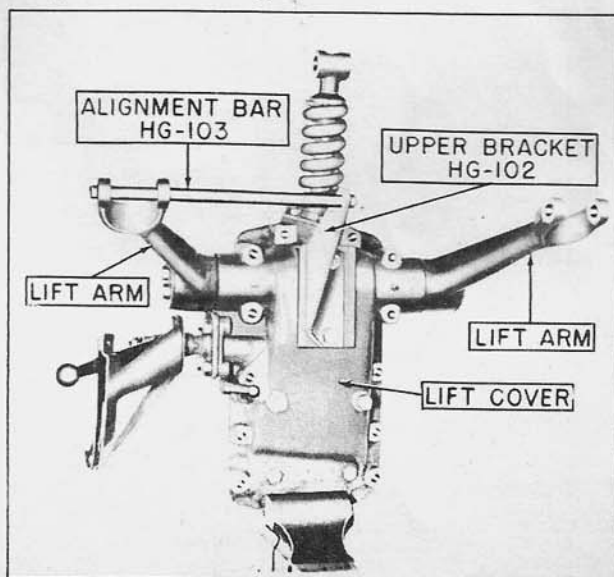
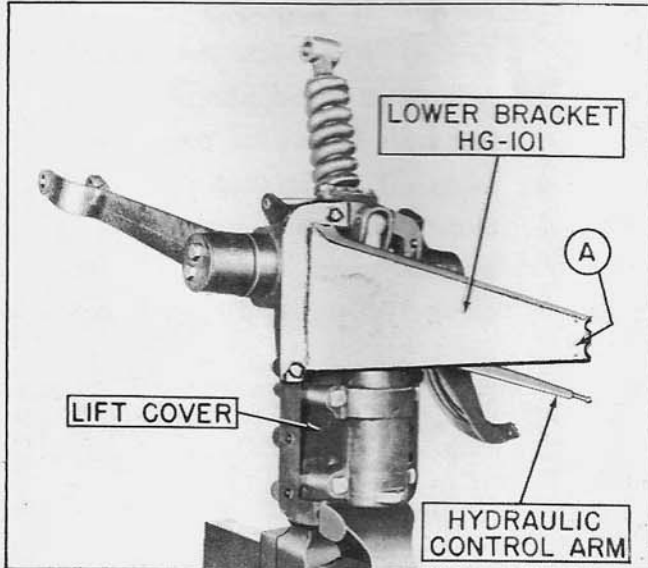

Figure 1
Figure 2
Figure 1 shows the upper adjustment bracket, HG-102, bolted in place on the lift cover assembly and the alignment bar in position. Figure 2 shows the lower bracket, HG-101, bolted in place. The two brackets and the bar remain in this position until the adjustments are completed. The function of the upper bracket HG-102 and the alignment bar is to hold the lift arms in their full-up position. The lower bracket has two slots in the lip on the free end, (A), Figure 2. These slots represent the full intake and exhaust position of the valve in the hydraulic pump. The lower bracket is used in adjusting the constant draft and implement position control springs to their proper length.
1. Support the lift cover assembly firmly in a vise, as shown in Figure 1.
2. Bolt the upper bracket in position as shown in Figure 1. Use studs and nuts which secure the seat to the lift cover.
3. Place the alignment bar, HG-103, in position as shown in Figure 1. Be sure the bar extends through both holes in the lift arm and
4. Bolt the lower bracket, HG-101, in position as shown in Figure 2. Use cap screws taken from same holes in the lift cover assembly as shown. Secure with  $\frac{7}{16}$ —# 14 nuts on other side of cover.